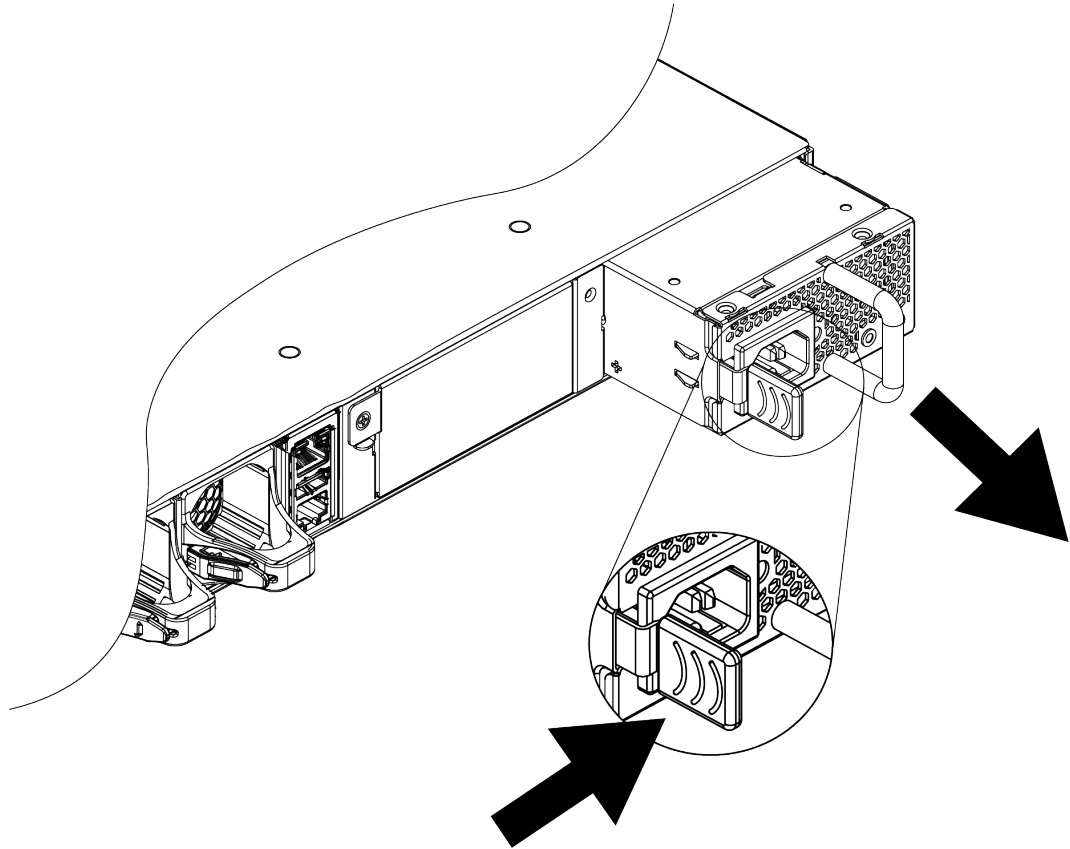

Figure 45: Removing a 715 W AC Power Supply
3. Push the latching tab toward the power supply handle and pull outward on the handle to disengage the power supply internal connectors. See Figure 45.